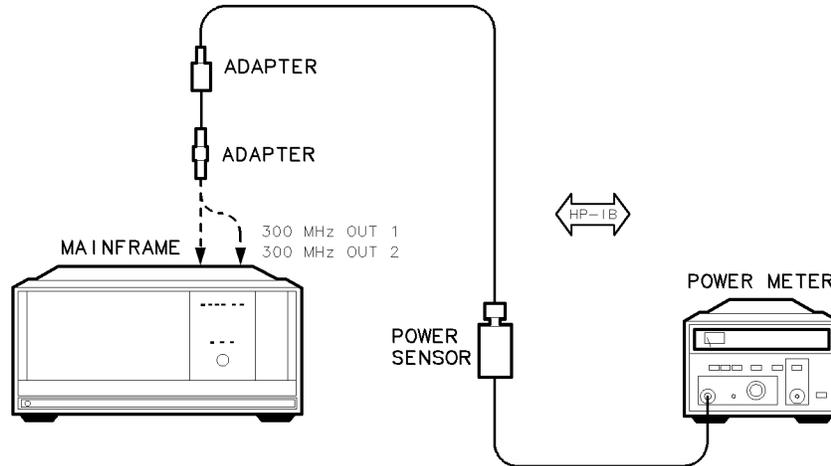

Figure 7-10. 300 MHz Reference Amplitude Accuracy Test Setup
1. Connect the HP 437B power meter and HP 8485A APC-3.5 mm(m) power sensor to the DUT using the adapters, as shown in Figure 7-10.